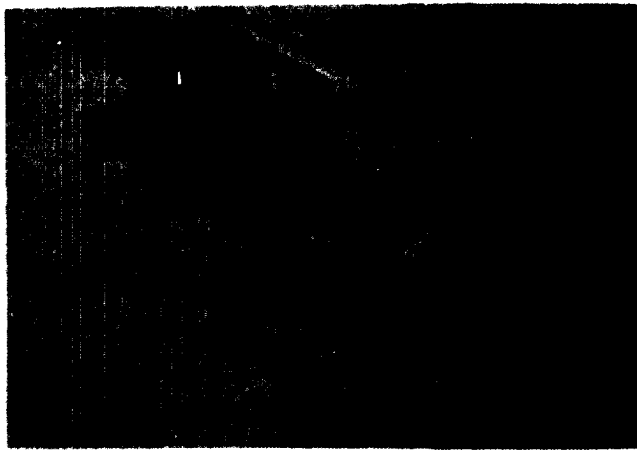

Figure 22-6. Removing Front Piston Assembly.
(8) Slide the front piston assembly from the cylinder (figure 22-6).